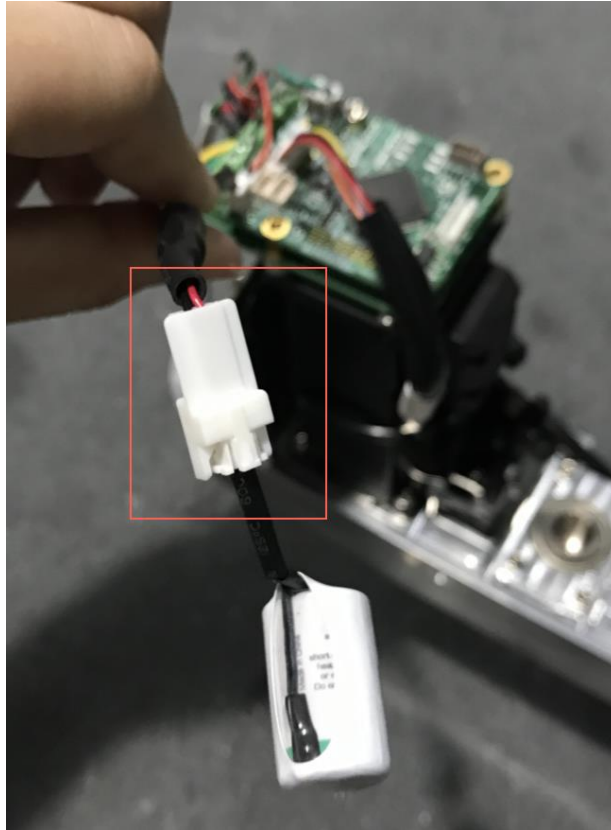

Figure 7.12 Disconnect the battery to the batter adapter
3. Remove the original battery and disconnect the connector of the battery to the battery adapter cable, as shown in Figure 7.12.